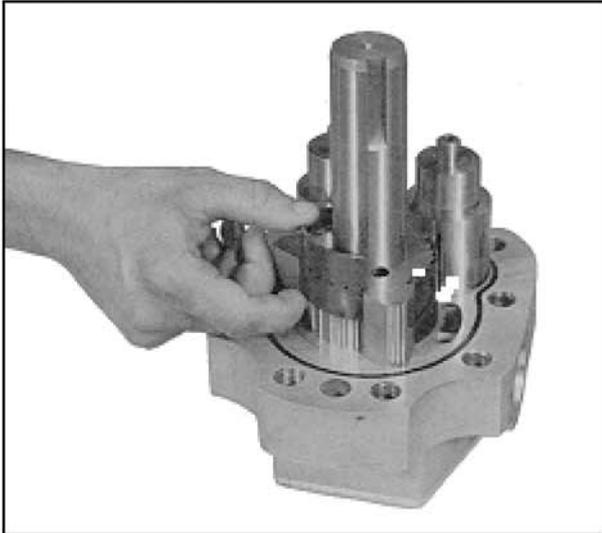

FIGURE 4
5.) Remove seal plates (Fig. 4)